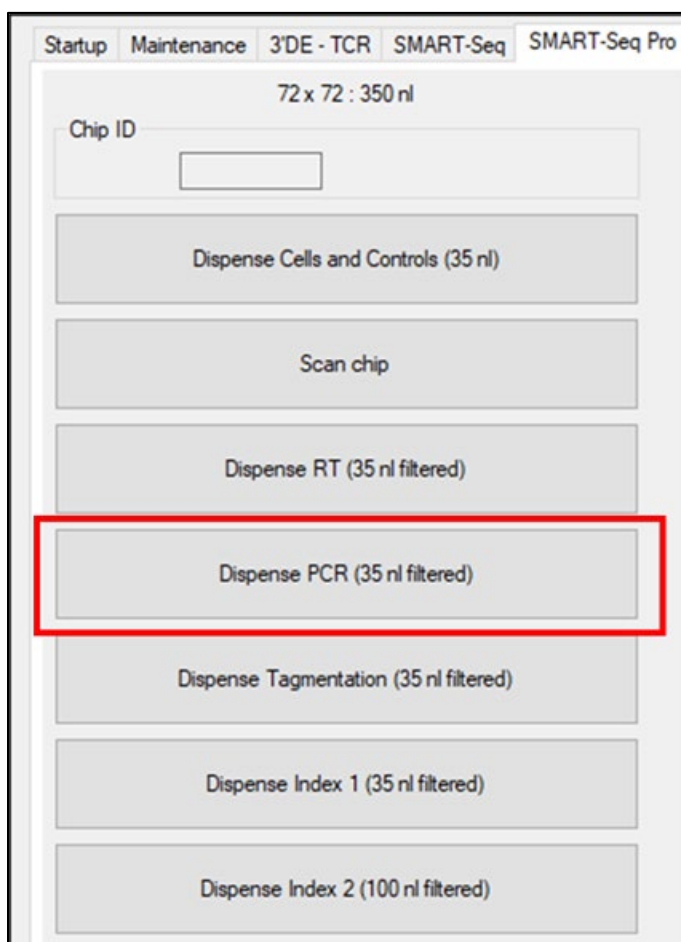

Figure 16. Using CELLSTUDIO software to dispense the PCR mix.
- b. At Step 8, click the [Dispense PCR (35 nl filtered)] button (Figure 16).